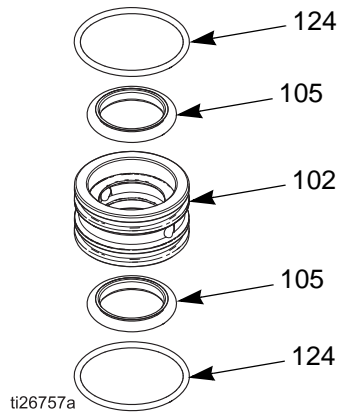

FIG. 23 Seal cartridge
- Reinstall the seal cartridges (see FIG. 23 for the order of the seals (105) and o-rings (124)) into the lower housing (101). Apply a thin coat of grease on